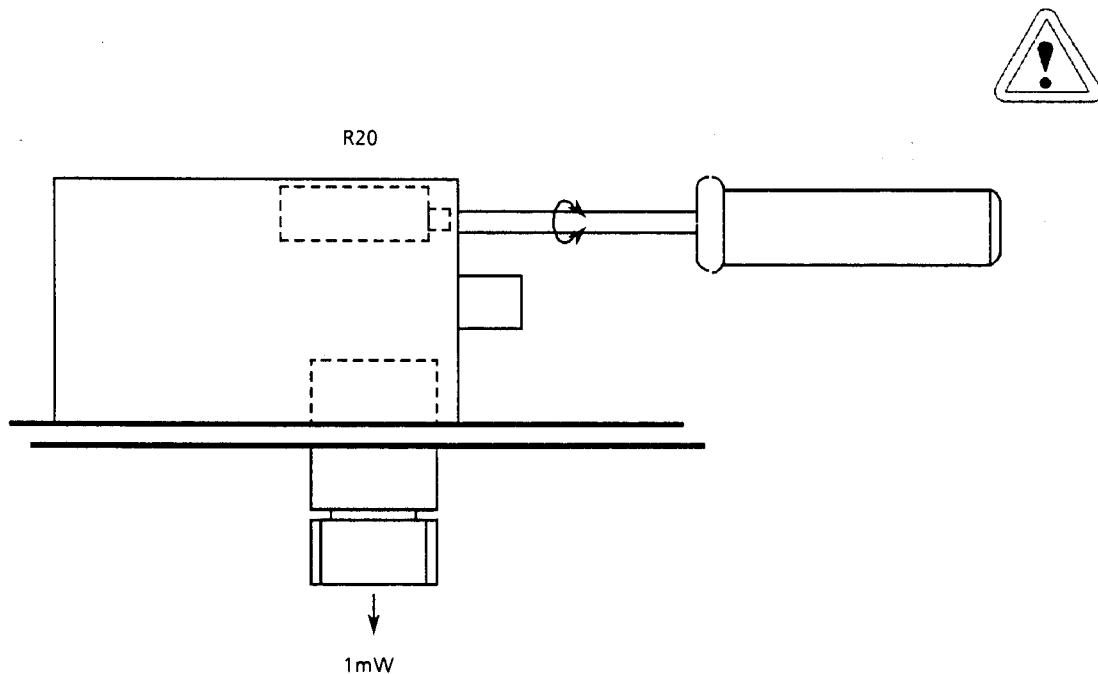

Fig 6-5 Adjustment of the Sensor Check Source
- Remove the top cover and adjust the sensor check source so that the power meter reads exactly 1.0000 mW (see Fig. 6-5).